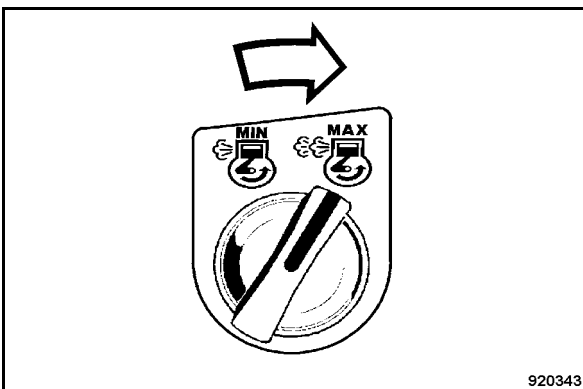

Fig. 132
- Turn the rotary momentary contact switch for engine speed (Fig. 132) clockwise to "MAX".